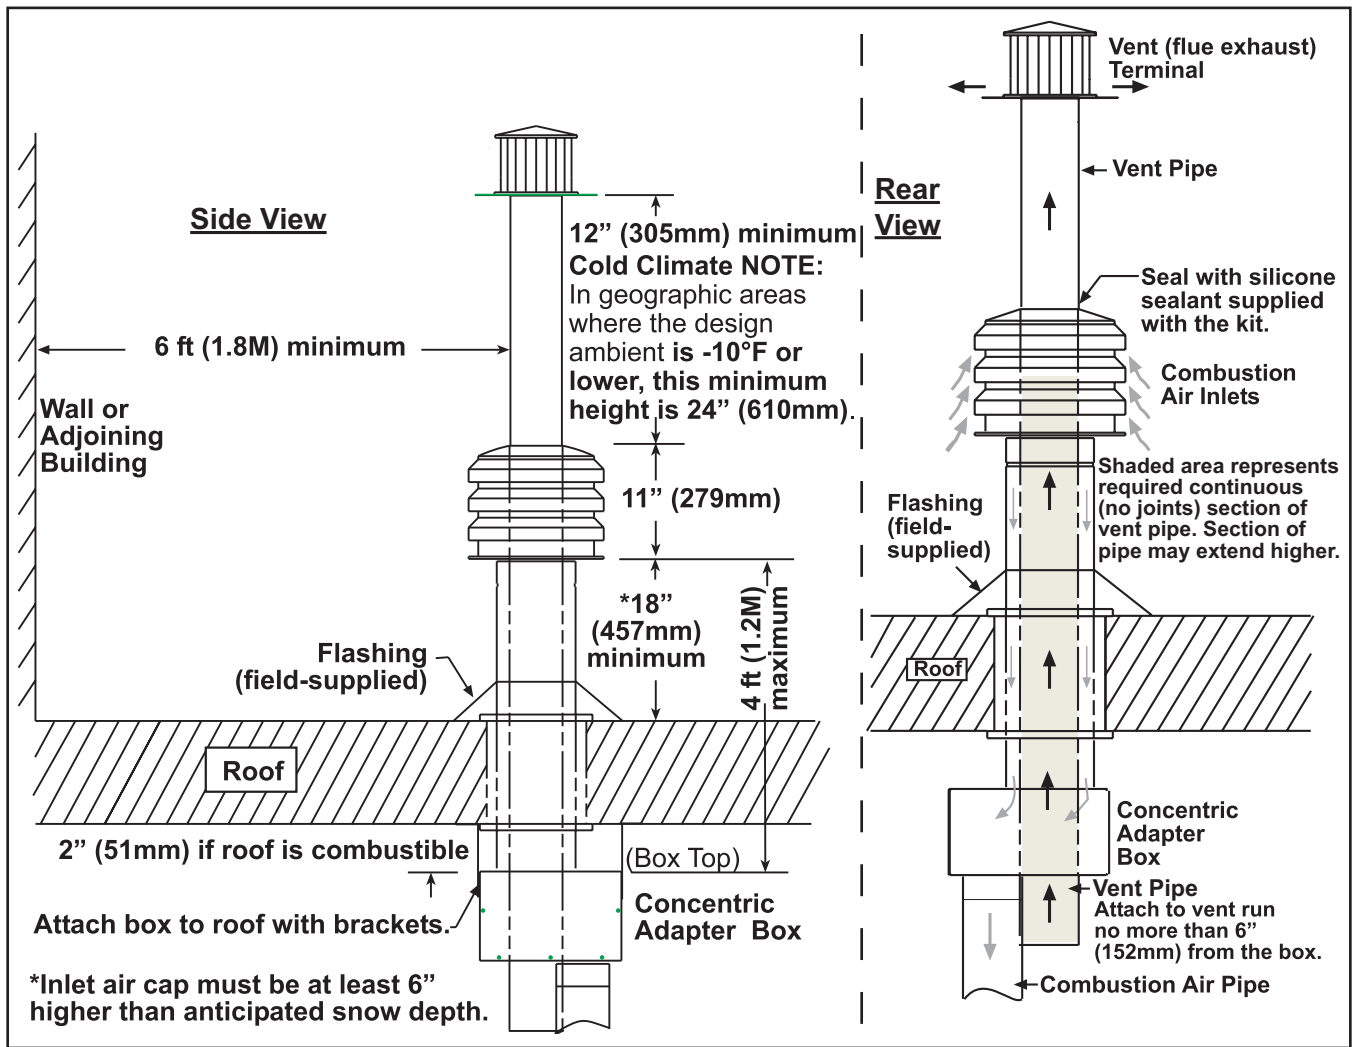

Figure 17. Option CC2 Installation
- b. Select location away from fresh air intakes, allowing space for concentric adapter box inside. Vent terminal must be located away from adjacent buildings as shown in Figure 17.
11. Verify compliance with Figure 17 and with all specific venting requirements listed above.